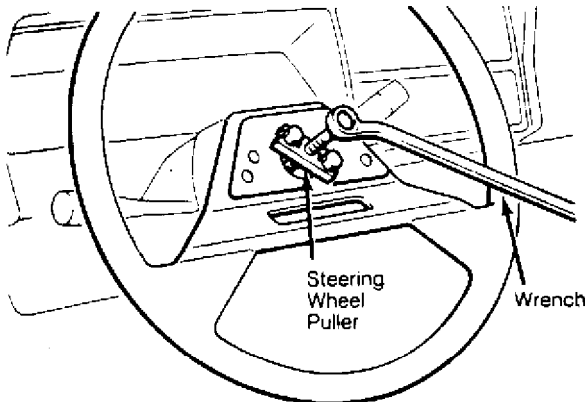

Fig. 1: Removing Steering Wheel
4) Remove steering wheel retaining nut and washer. Mark steering wheel and shaft for reassembly reference. Using a steering wheel puller, remove steering wheel. See Fig. 1.